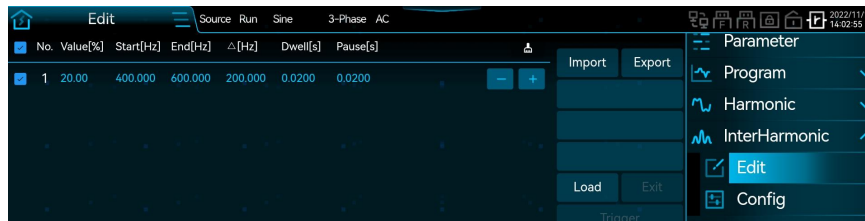

Figure 109 Interharmonic Parameter Setting Example Figure 1
- 2) For interharmonic parameters, see Table 28; for an example diagram, see Figure 109.